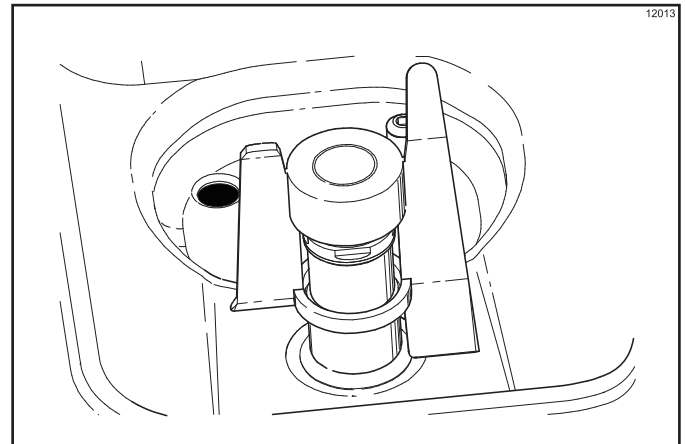

Figure 6-39
- Place the agitator on the agitator driveshaft housing. (See Figure 6-39.)